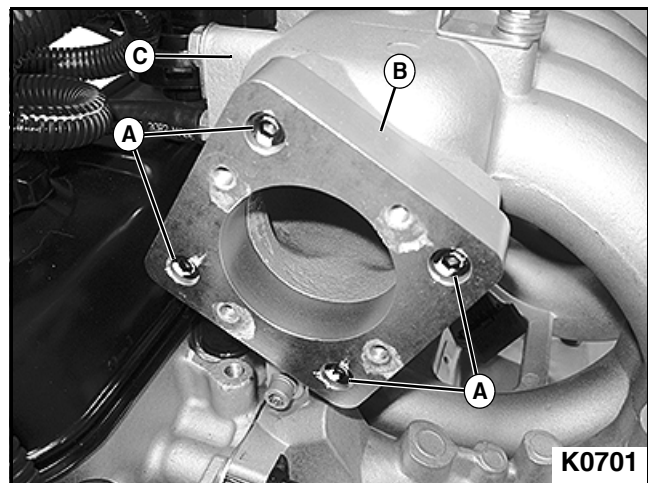

Figure 3-38
5. Remove four socket head cap screws (A) securing throttle body to upper intake manifold adapter (B) and remove adapter from the upper intake manifold (C). **See Figure 3-38.**